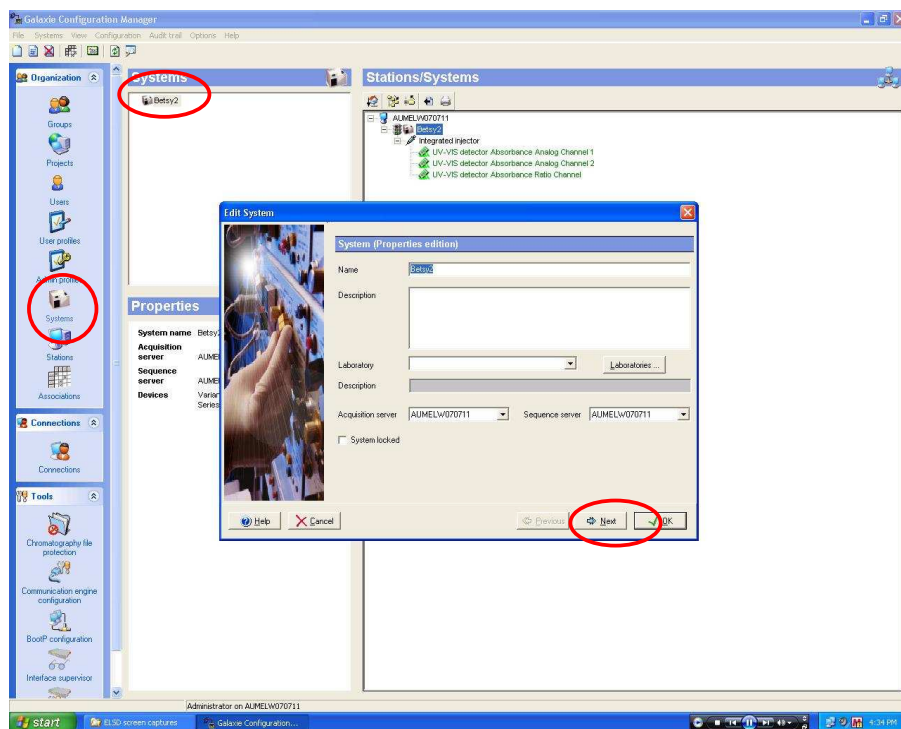

Figure 5: Galaxie Configuration Manager
5. In *Galaxie Configuration Manager* (Fig 5) click on Systems. Double click on the system that is to have the standalone ELSD added to it. The following screen appears.